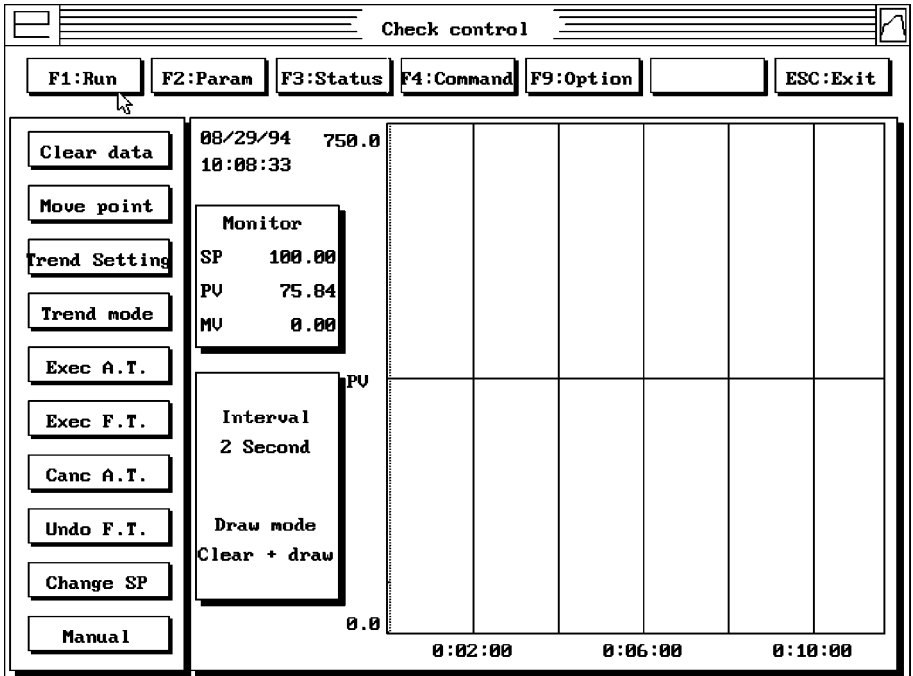

Figure 32
2. Select **Exec. F.T.** from the menu on the left side of the screen (Figure 32).